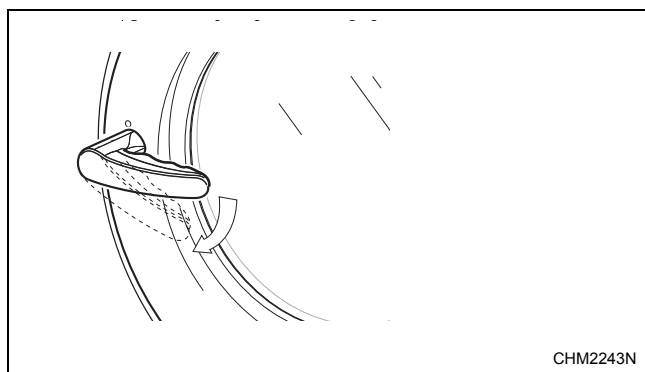

Figure 3
2. Turn handle clockwise to open. Refer to *Figure 3*.